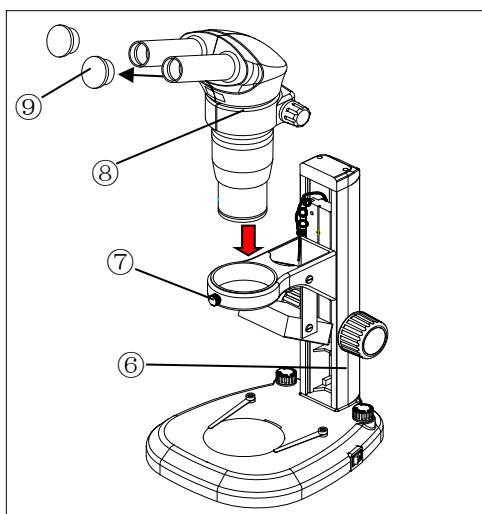
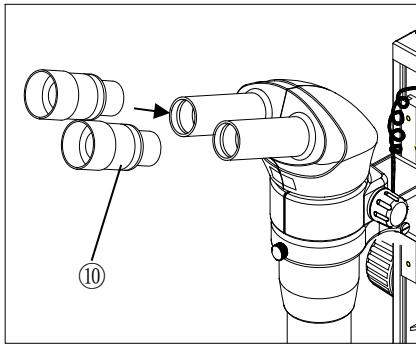
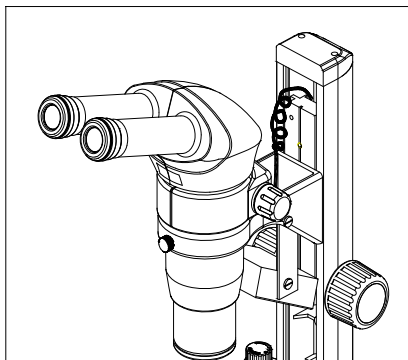

Fig.3
Fig.4
Fig.5
### 2.2.2 Mounting binocular head (Fig.3)
### 2.2.3 Mounting eyepieces (Fig.3, Fig.4, Fig.5)
1. Remove the eyepiece dust caps (9) and gently insert two adjustable eyepieces (10) into the eyepiece sleeves until they stop, as in Fig.4.
Use with eye shades in their normal folded-down position. This will prevent eyeglasses from being scratched by the eyepiece as in Fig 5.